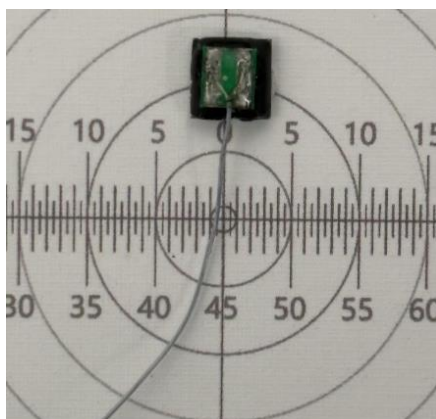

Figure 3.4 Fixing the SiPM detector onto the filter using black epoxy adhesive
Step 26. Apply black epoxy adhesive around the perimeter of the SiPM detector (Figure 3.4).